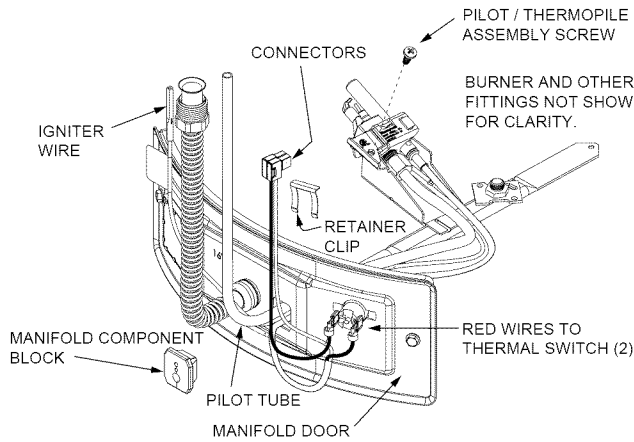

**FIGURE 35.**
1. Take off the burner by removing the two (2) screws located underneath the burner. **IMPORTANT:** DO NOT remove the orifice.
2. Check the burner to see if it is dirty or clogged. The burner may be cleaned with soap and hot water (Figure 35).
2. Natural Gas/LP Models - Remove the burner to access the pilot/thermopile assembly. Remove and keep the screws securing the burner to the manifold (Figure 35).
- Using the pilot/thermopile assembly screw removed earlier reattach the new pilot/thermopile assembly. Reattach the burner to the manifold using the screws removed earlier. NOTE: make sure the burner scoop is oriented to the pilot side of the manifold tube (Figure 35).